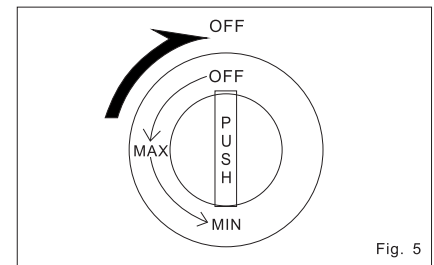

Fig. 5
- After use, turn the ignition knob back to OFF position and make sure the burner is put out (Fig. 5).